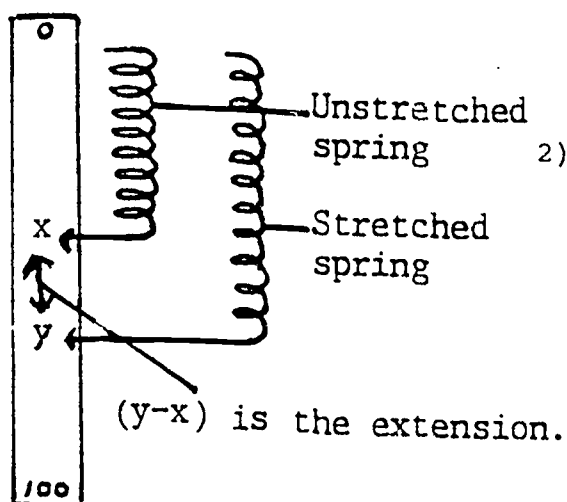

Fig. 17
Arrange the apparatus as shown in figure 17 on the previous page by completing the following steps.
- 2) the extension produced by each force. Figure 17 shows you how to do this.